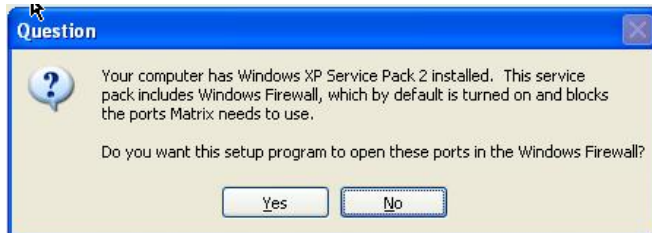

FIG. 16 Setup Path 1 - Firewall Question
- Setup checks for Windows XP Service Pack 2 installation. If Service Pack 2 is present, the pop-up shown in FIG. 16 appears. Choose **Yes** or **No** to continue.